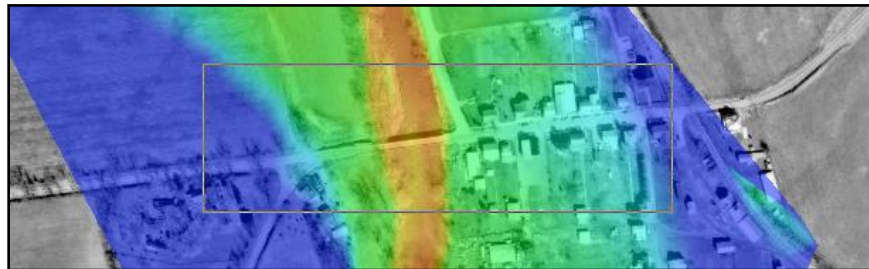

Figure 3 Zoom in to this area
3. **Zoom**  in to the area in the rectangle in Figure 3.